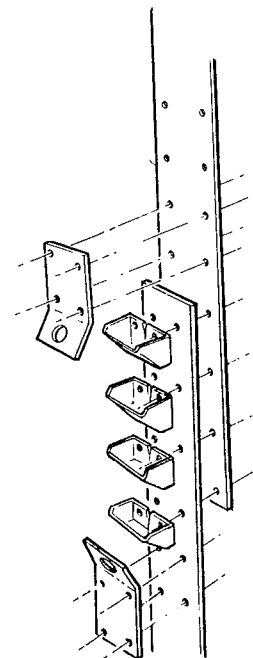

FIGURE 6
3. Pull the rope around the boot pulley until the belt is around far enough to splice, see Figure 6.